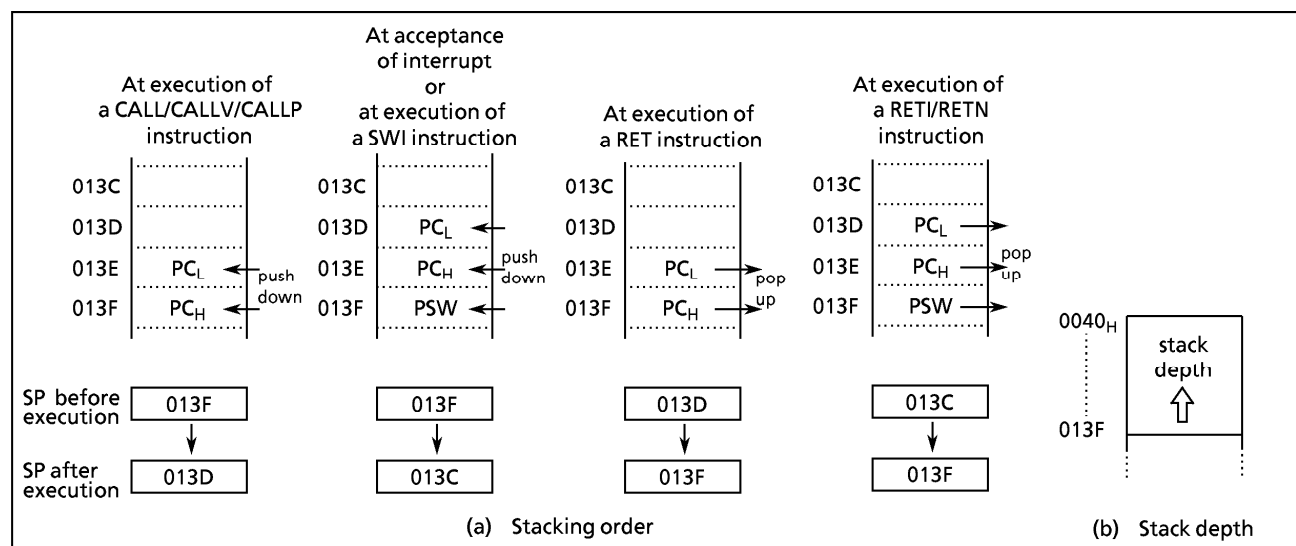

Figure 1-8. Stack
1.7.2 Stack Pointer (SP)
The stack pointer (SP) is a 16-bit register to point out the first start address on the stack. The SP is post-decrement when a subroutine call or a push instruction is executed, or when an interrupt is accepted; and the SPC is pre-incremented when a return or a pop instruction is executed. The stack deepens to the direction of the lower address. Figure 1-8 shows the change of the stack access and the SP.